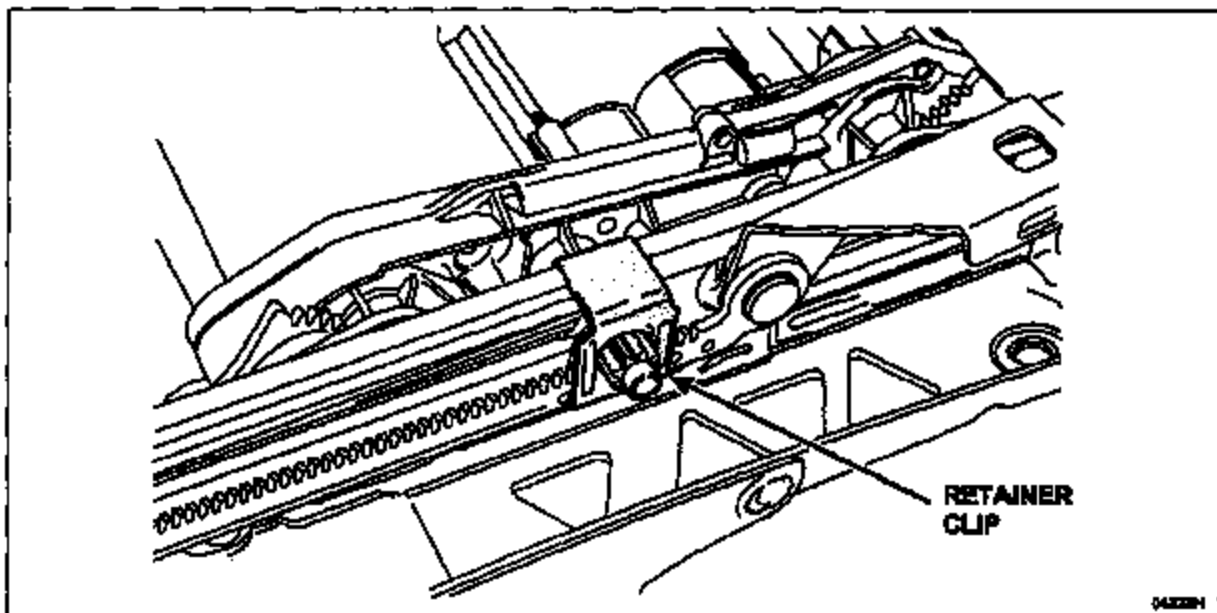

FIGURE 8
9. Remove the outboard retainer clip. See Figure 8.
9. Install the outboard retainer clip. See Figure 8.